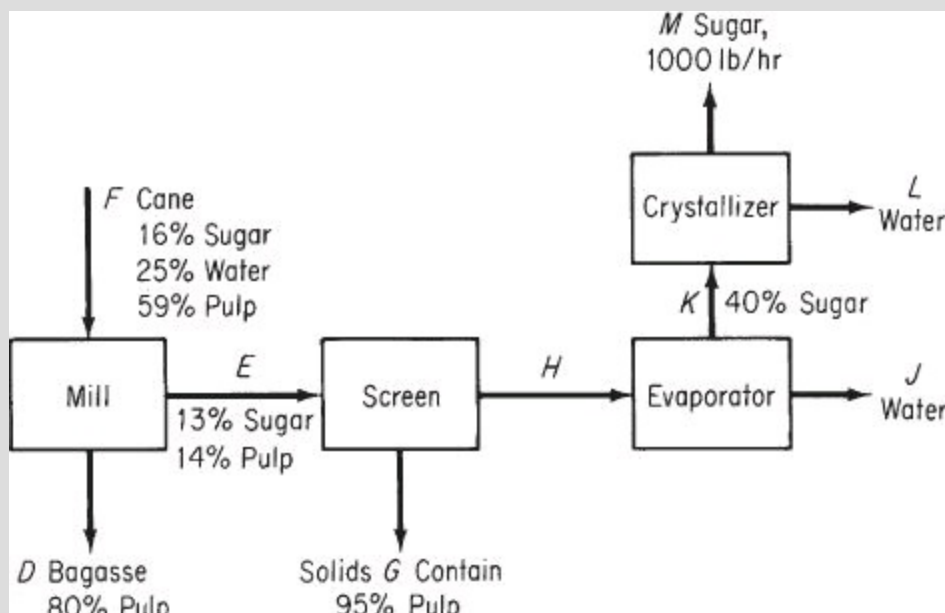

Figure E6.4
Figure E6.4 shows the process and the known data. You are asked to calculate the compositions of every flow stream, and the fraction of the sugar in the cane (F) that is recovered in M .
All of the known data have been placed on Figure E6.4. The process is an open, steady-state system without reaction. If you examine the figure, two questions naturally arise: What basis should you pick, and what system should you pick to start the analysis? The selection of certain bases and certain systems can lead to more equations that have to be solved simultaneously than others. You could pick as a basis $F = 100 \text{ lb}$, or $M = 1000 \text{ lb}$ (the same as 1 hr), or the value of any of the intermediate flow streams. You could pick an overall process as the system to start with, or any of the individual units, or any consecutive combinations of units. We will pick M because its value is specified.